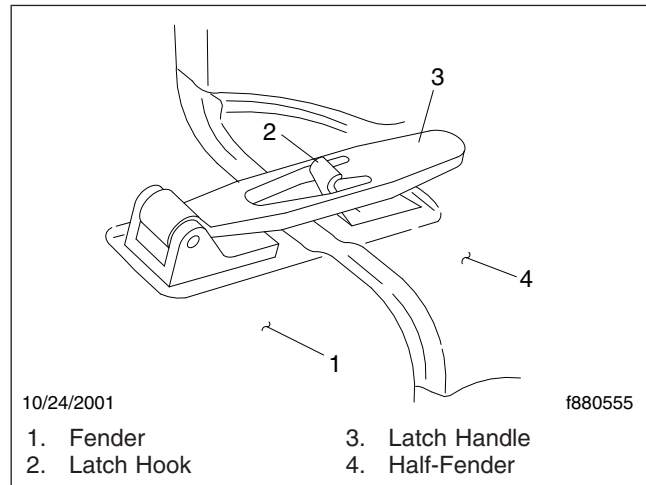

Fig. 2.10, Hood Hold-Down Latch
2. Release both hood hold-down latches by pulling the ends outward. See Fig. 2.10.